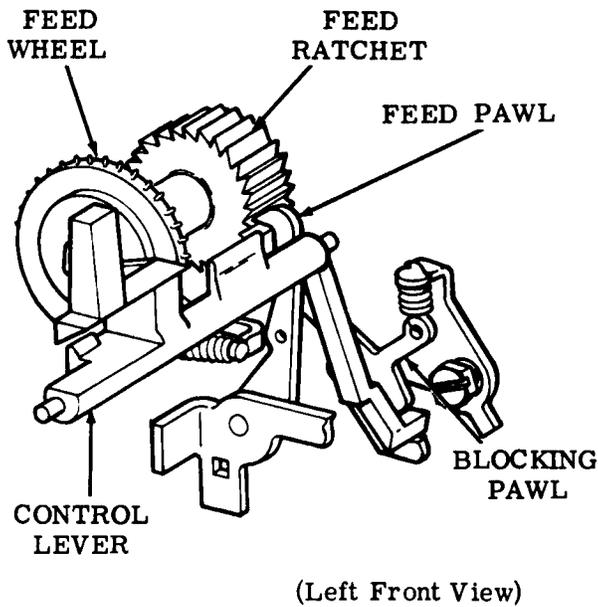

Figure 15 - Freewheeling Mechanism
4.01 The 32 tape reader is provided with a freewheeling feature which allows the feed wheel to rotate freely. When the control lever is moved to the FREE position, the extension on the control lever engages the blocking pawl and pivots it clockwise. Riding in a slot on the underside of the blocking pawl is a stud which connects to the feed pawl. As the blocking pawl is pivoted clockwise by the control lever extension, the blocking pawl moves the feed pawl away from the feed ratchet. With the feed ratchet free, the feed wheel will also rotate freely (Figure 15).